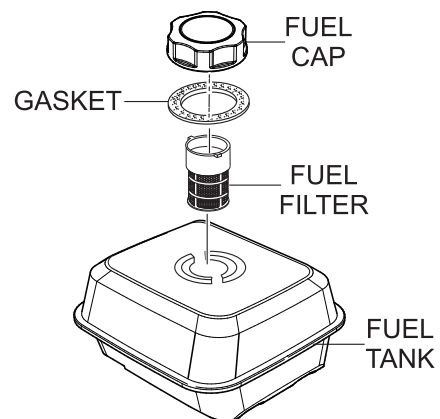

Figure 34. Fuel Strainer
3. Next, remove, inspect and clean the fuel filter (Figure 34) with solvent.